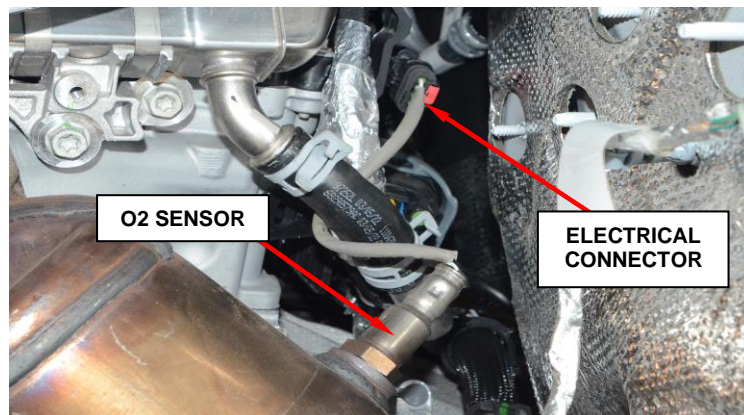

Figure 2 – O2 Sensor Electrical Connector
6. Unlock and disconnect the left/right downstream O2 sensor wire harness connector (Figure 2).
10. Reconnect the O2 sensor electrical connector (Figure 2).